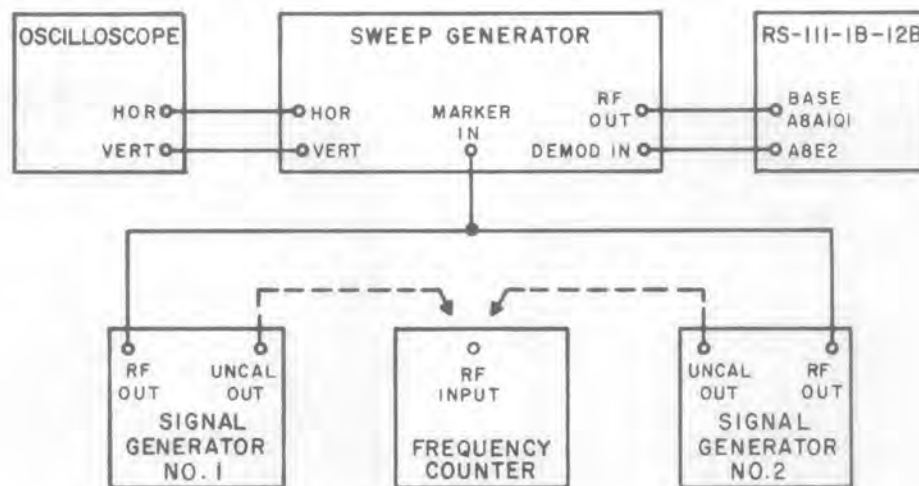

Figure 4-9. Test Setup, 20/75/300-kc IF Amplifier Alignment
- (1) Remove the 20/75/300-kc IF amplifier assembly from the chassis. Reconnect multipin plug A8P1 to jack J7 on the main chassis.
- (2) Remove the two bottom plates from the 20/75/300-kc amplifier.
- (3) Remove transistor Q8 from its socket.
- (4) Connect the equipment as shown in Figure 4-9.
- (5) Set the receiver function switch to AM/MAN.
- (6) Rotate the receiver RF GAIN control maximum clockwise.
- (7) Set the oscilloscope controls as follows: